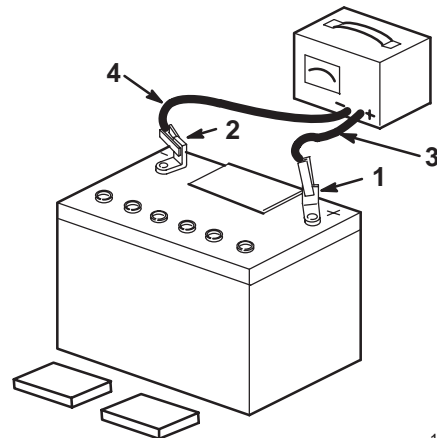

Figure 5
6. Leave the covers off and connect a 3 to 4 amp battery charger to the battery posts (Fig. 5).
8. When the battery is fully charged, disconnect the charger from the electrical outlet and from the negative and positive battery posts (Fig. 5).